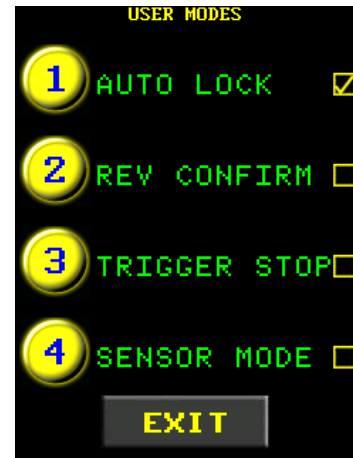

Figure 5.8-2: User Modes Menu
3. Select "Auto Lock" to toggle Auto Lock on or off (Figure 5.8-2).